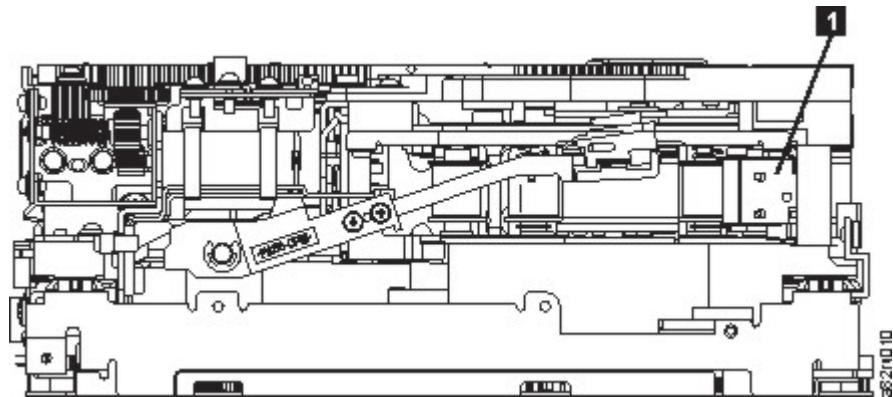

Figure 128. Leader Block Assembly (LBA)
- Rotate the threader motor worm gear (4 in Figure 127 on page 262) to turn the threader mechanism gear (6 in Figure 127 on page 262) counterclockwise. This action moves the LBA out of the cartridge and past the read/write head. Stop this rotation when the LBA is near the tape guide roller nearest the rear of the drive that is shown as 1 Figure 128 on page 263.